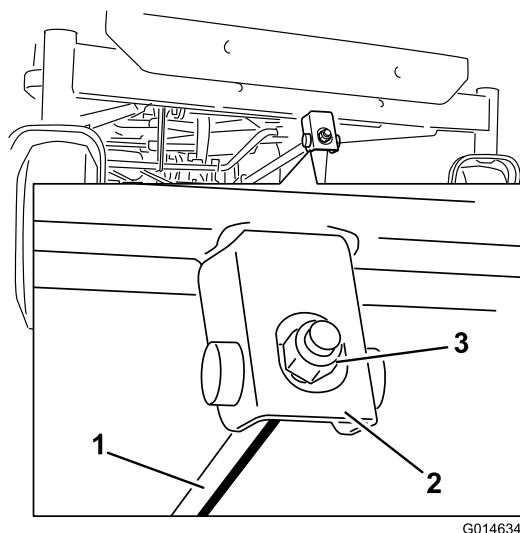

Figure 56
5. Measure from the tip of the front blade to the flat surface and the tip of the rear blade to the flat surface (Figure 56). If the front blade tip is not 1/16-5/16 inch (1.6-7.9 mm) lower than the rear blade tip, adjust the front locknut.
6. To adjust the front-to-rear blade slope, rotate the adjustment nut in the front of the mower (Figure 56).